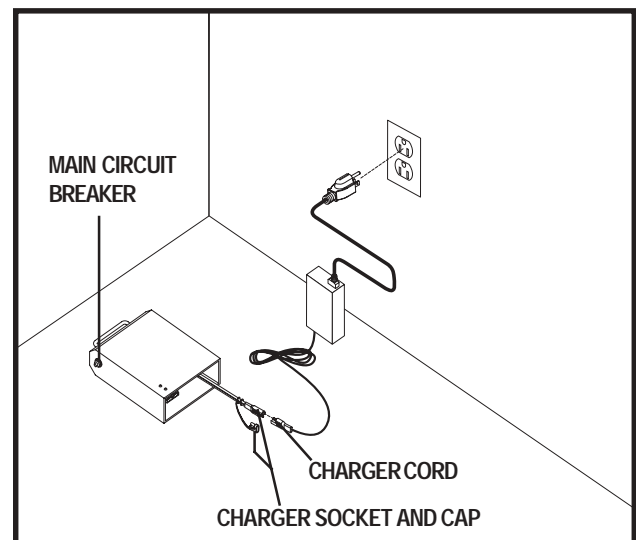

Figure 9. Battery Charging
2. Remove the cap from the charger socket located on the bottom of the battery, plug the charger cord into the charger socket, then connect the charger cord to a standard electrical outlet. See figure 9.
The main circuit breaker is a safety feature built into your lift system's battery. See figure 9. When the battery and/or motor is heavily strained (e.g., from excessive loads), the main circuit breaker trips to prevent damage to the motor and the electronics. If the circuit trips, allow the lift system to “rest” for approximately one minute. Then, push in the circuit breaker button and continue normal operation. If the main circuit breaker continues to trip repeatedly, contact your authorized Pride Provider.